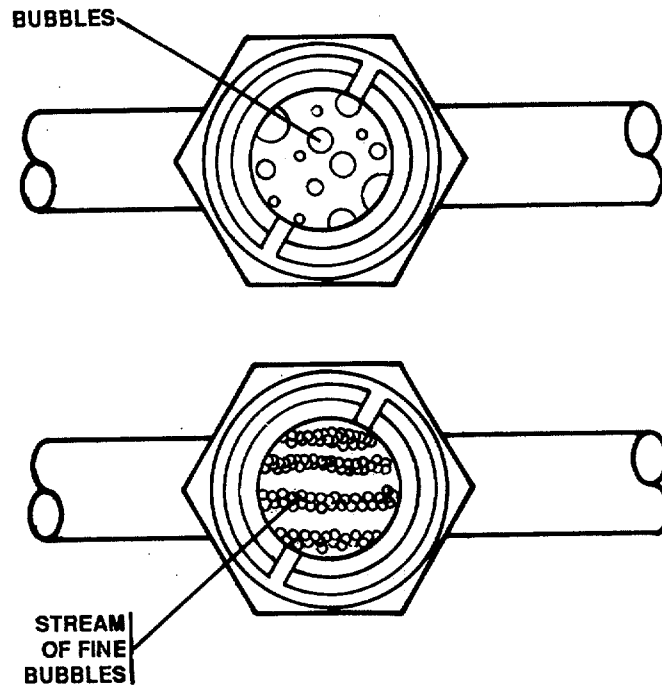

FIGURE 4-25. *Low Refrigerant Charge.*
- (22) Observe the refrigerant sight glass in the liquid line. If bubbles, or an intermittent stream of bubbles (FIGURE 4-25) are present, add additional refrigerant until sight glass shows clear. Do not add refrigerant after sight glass clears.
- (23) Close valve (6) on refrigerant container (7).
- (24) Turn suction valve stem and discharge valve stem fully counterclockwise and install valve caps (9) and (5).
- (25) Purge lines before disconnecting.
- (26) Disconnect gauge manifold hoses from connections (10), (4), and (8).